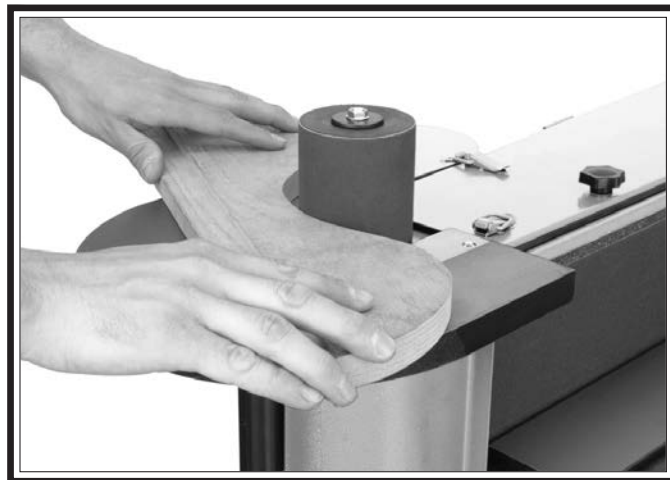

Figure 61. Typical contour sanding operation.
5. While securely holding workpiece, slowly press workpiece against drum or roller with light, even pressure. Maintain control of workpiece, as shown in **Figure 61**, while maintaining consistent pressure against end table. Use extra caution when sanding end grain.